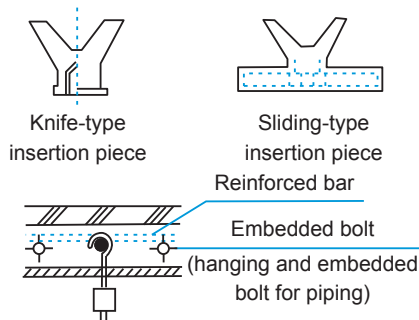

Figure 3.4
- Suspend the air conditioner on the lifting bolt as shown in Figure 3.4. Use a spirit level to find the length and width at level. During the process, you need to repeatedly adjust four Nut 2 on the boom. This situation may arise: In making sure that the air conditioner is level, the height difference between Washer 2 of the four lifting bolts and the bottom surface of the ceiling may not be consistent, hence A is not uniform. At this time, the priority should be to ensure that the unit body is level. Level the entire unit up and down until four level differences are as close as possible to A.